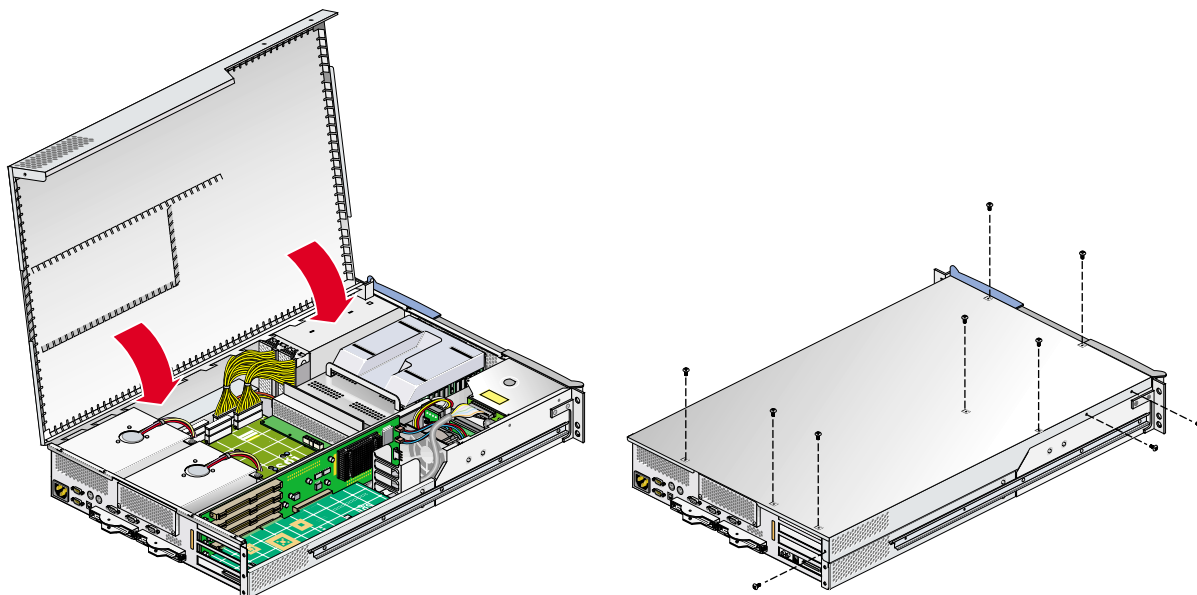

Figure 6-9 Closing the Cover
13. Close the hinged cover on the system and screw in the ten Phillips screws to secure the cover, as shown in Figure 6-9.